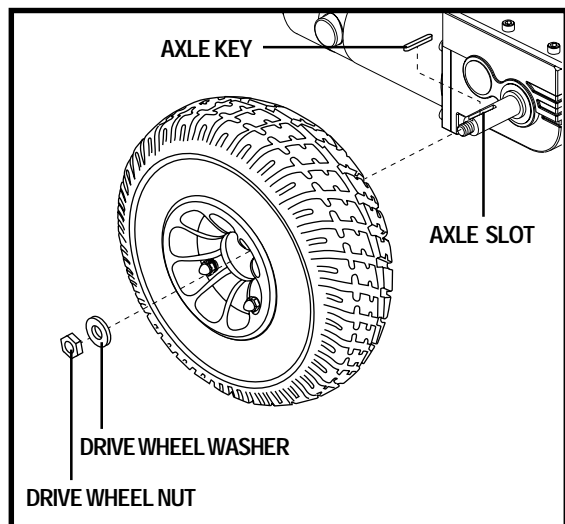

Figure 24. Jazzy 610 Drive Wheel
4. Remove the drive wheel nut and washer from the axle. See figure 24.